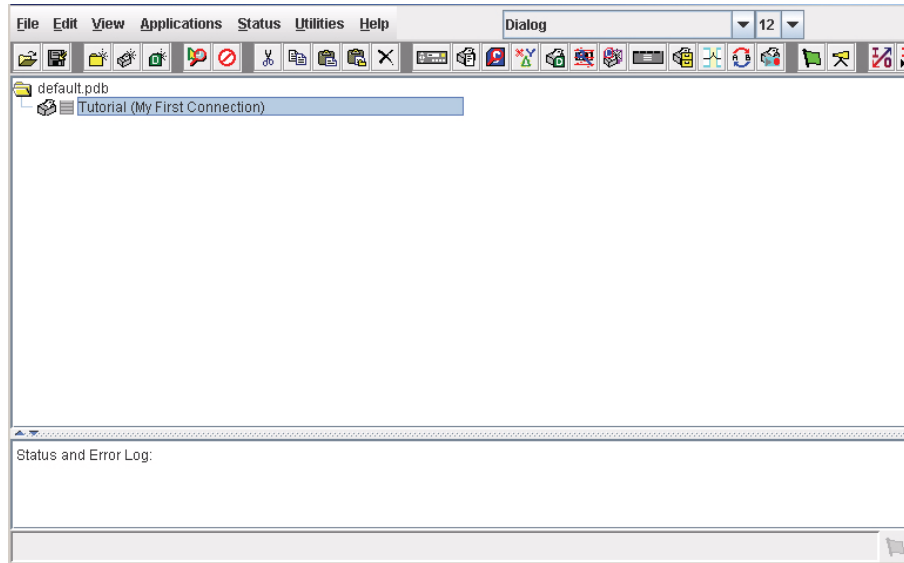

Figure 7 Printer Database Main Window
12. Click **OK**. The Printer Properties dialog box closes and you return to the printer database main window. See Figure 7. Your printer is now set up in the PNE database.
- a. **Tutorial (My First Connection)** should be highlighted in blue, as shown in Figure 7. If it is not highlighted, click it to select it.